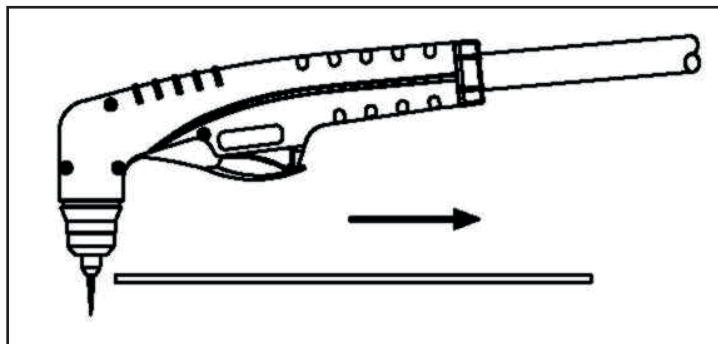

Figure 15
- For edge starts, hold the torch perpendicular to the workpiece with the front of the tip on the edge of the workpiece at the point where the cut is to start - Fig. 15.